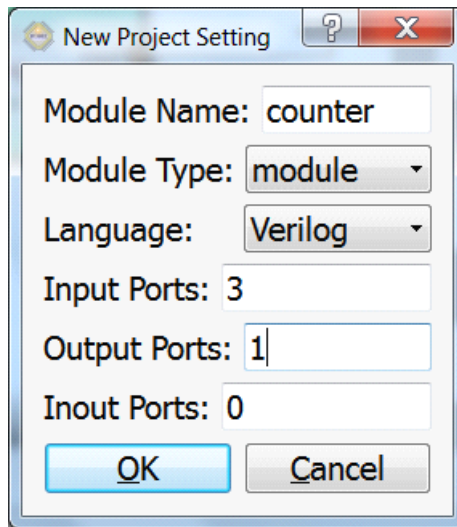

Fig 2. Create a new module
- 1) Create a new module. Click on icon  in toolbar, or select drop-down menu “New” from menu “File”, a dialog will pop up shows in fig.2. You can set the properties of your design in this dialog.